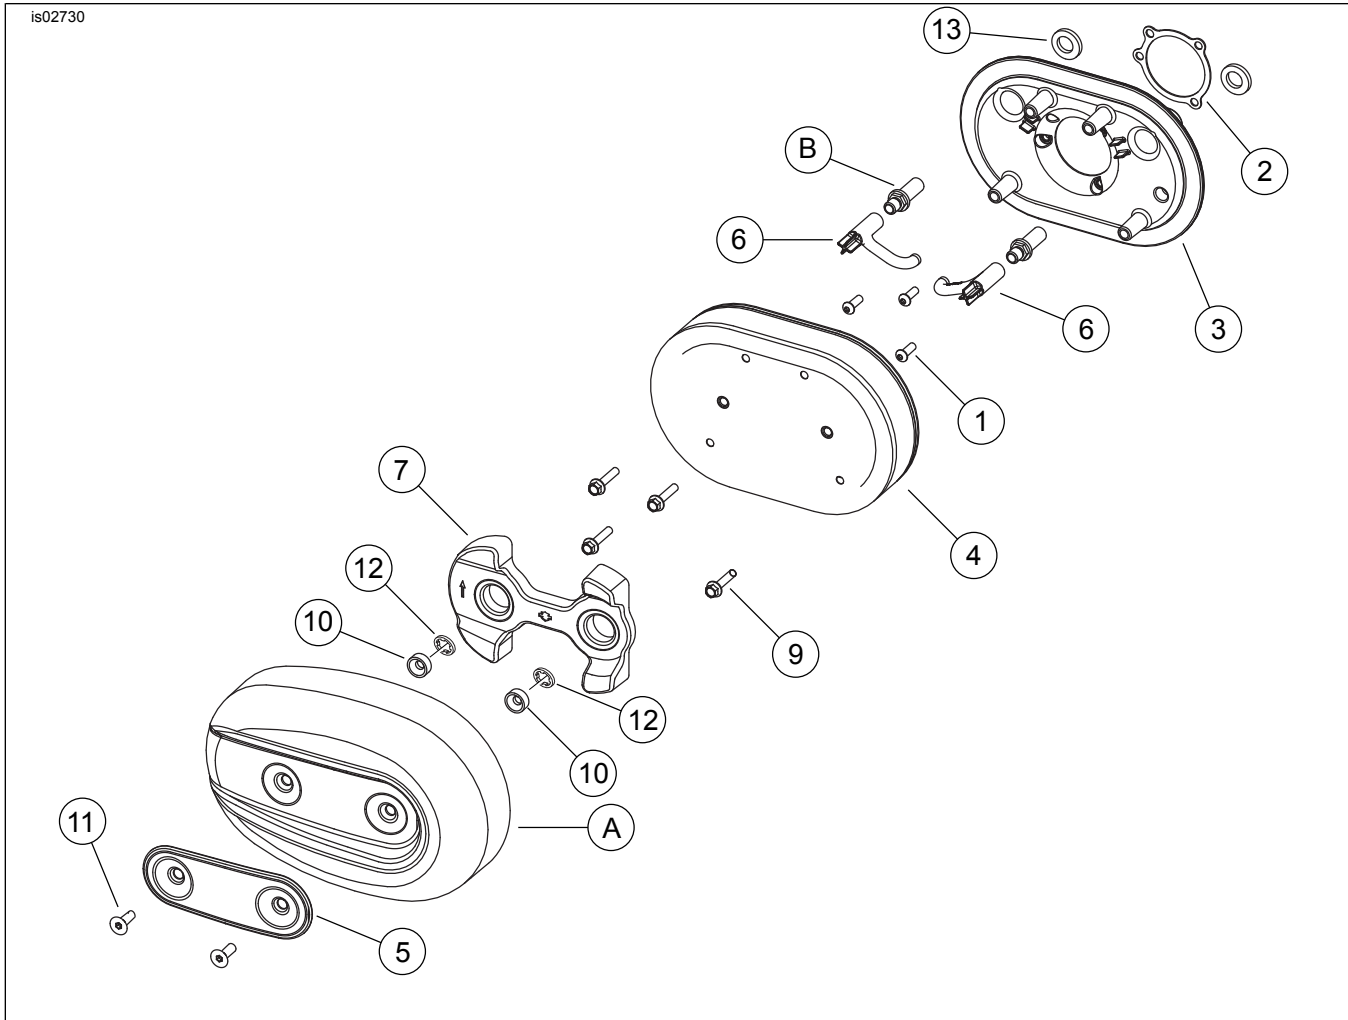

Figure 1. Service Parts: Screamin' Eagle High Flow Air Cleaner Kit For Sportster
See Figure 1 and Table 1.
2. Install three screws (1) fully into backplate inserts.
3. See Figure 1. Peel backing paper off air cleaner-to-carburetor gasket (2) and apply to "carburetor side" of backplate. Make sure gasket holes are lined up with backplate holes. Install screws and gaskets with a small amount of Loctite 243 (blue) to the threads.
4. Mount backplate (3) to carburetor. Align the three 1/4-20 screw holes in carburetor with the matching holes in the backplate. Insert the three screws (1) a few turns at a time to avoid breaking the backplate inserts loose. Tighten screws to 4.1–6.8 N·m (36–60 **in-lbs**).